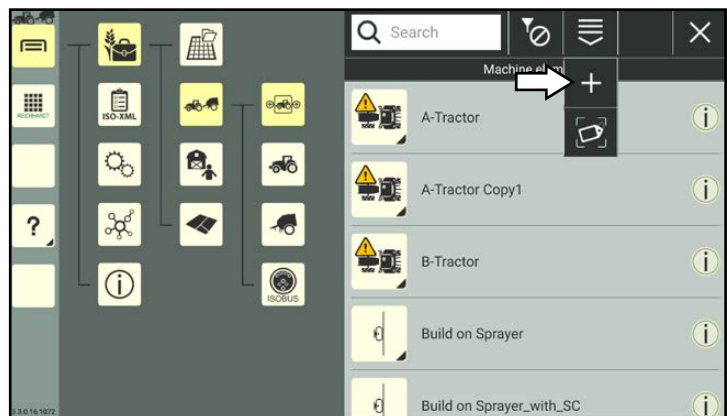

Fig. 311: Adding a machine
-  Open the processing options in the top bar of the machine list. Tap the plus sign to then add a machine (see Fig. 311).